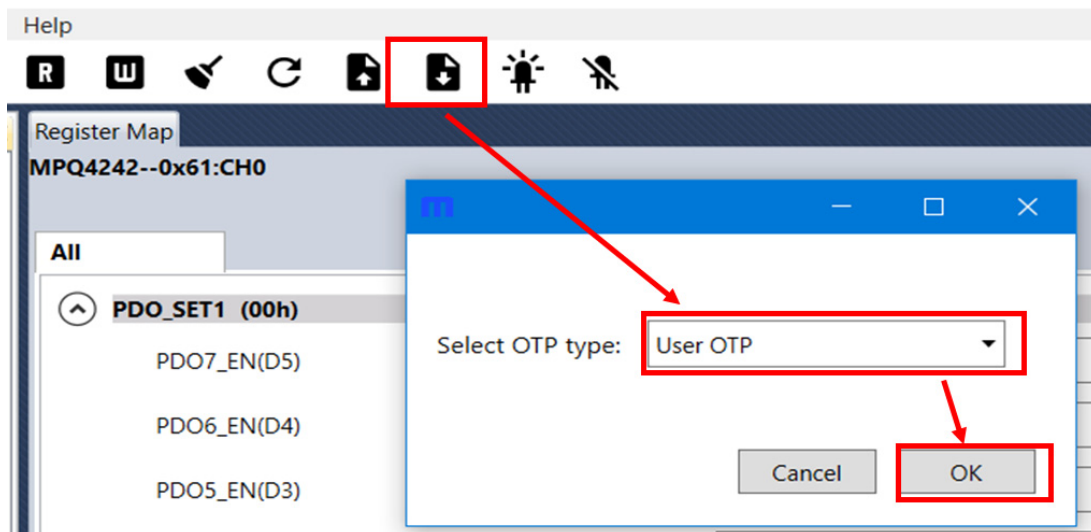

Figure 7: Select the OTP Type
10. Click “Write to MTP” and select “User OTP,” then click “OK” (see Figure 7).